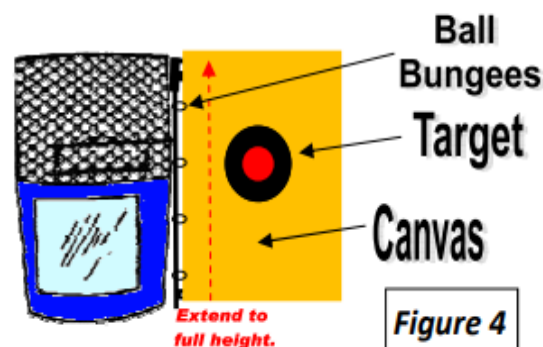

Figure 4
5. Extend top canvas bar to full height, and use the ball bungees to secure canvas to the vertical bar. (See **Figure 4**.)